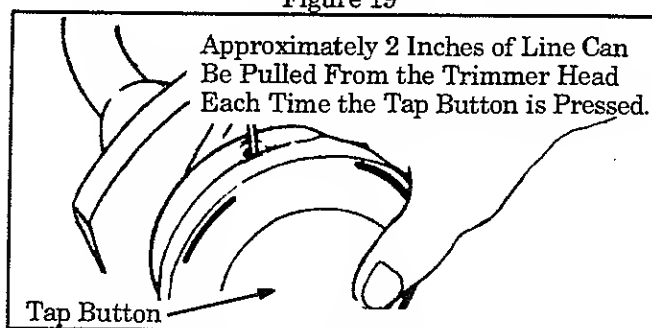

Figure 20
- Obtain the correct line length (4-6 inches) by pressing the tap button (Figure 20) and pulling on the line again.
**NOTE:** Each time the tap button is pressed, approximately 2 inches of line can be pulled from the trimmer head. Figure 20.